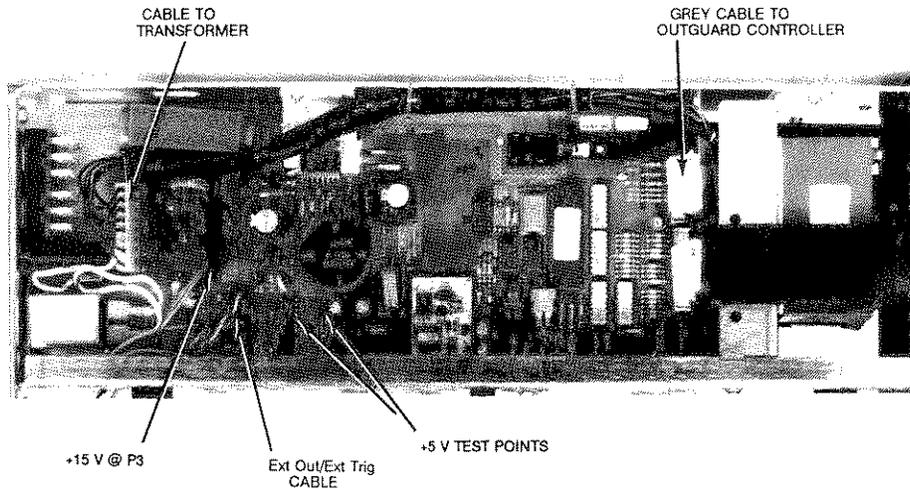

Figure 4-2. Outguard Power Supply
2. Refer to Figure 4-2 to locate the Ext Out/Ext Trig cable plugged in on the Outguard Power Supply (A6) assembly. Unplug the cable from socket P301.
2. Refer to Figure 4-2. Unplug the 2 pin cable from socket P3. The cable is connected to the fan.
3. Turn the instrument on. Use a digital multimeter to measure for approximately +15 V at socket P3, as shown in Figure 4-2.
- b. Refer to Figure 4-2 to locate the 8 pin cable that connects the Outguard Power Supply (A6) assembly to the power transformer. Unplug the cable at the power supply assembly.
2. Refer to Figure 4-2. With the test digital multimeter, check for +5 V \pm .05 V at the test points shown in the figure.
6. Refer to Figure 4-2. Unplug the grey 20 pin cable connected to the Outguard Controller (A5) assembly.